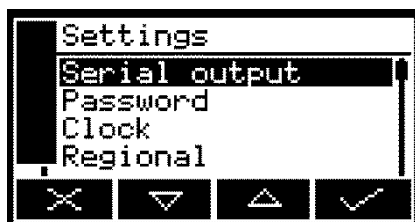

Figure 6 – The Settings screen
The Settings screen is shown in Figure 6. Use the  and  soft keys to highlight the required screen option, then press the  soft key to display the selected screen, as shown below.
1. With the Measurement screen displayed, press the  soft key to display the Menu screen, use the  and  soft keys to highlight the "Settings" menu option, then press the  soft key. The Settings screen will then be displayed (see Figure 6).